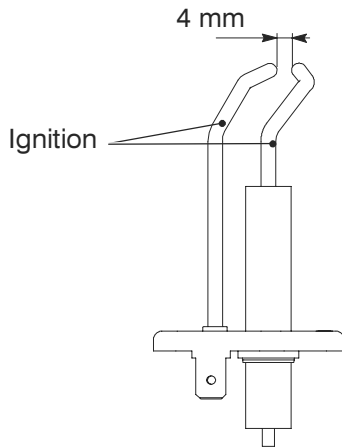

Fig. 18.10
- 2 Check for the correct distance between the metallic edges of the ignition electrode (see Fig. 18.10).